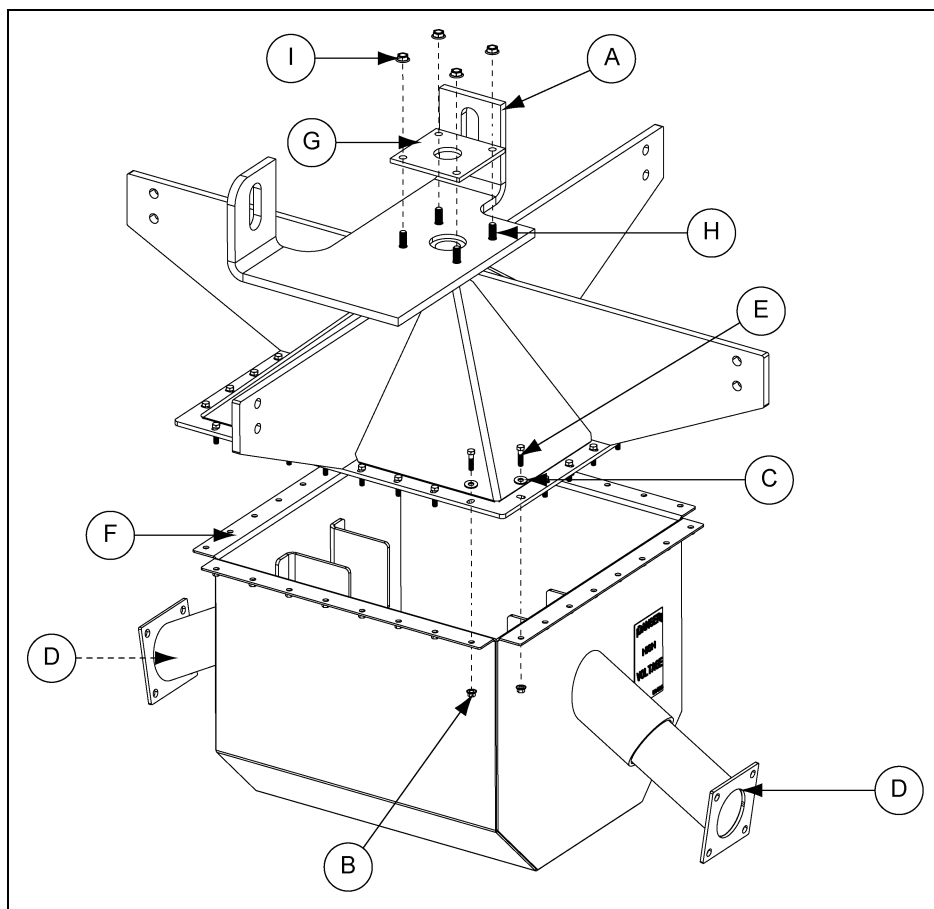

Figure 4A
2. Temporarily install the collector ring shield (F) to the bottom of the cross brace (A) using eight (8) hex bolts (E), eight (8) flat washers (C) and eight (8) hex nuts (B). (See Figure 4A.)